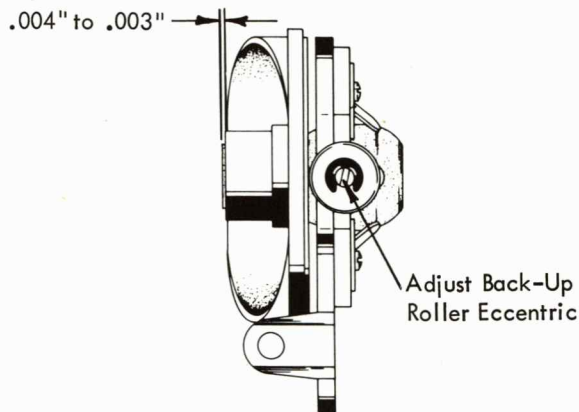

FIGURE 27. Shift Cam Back-Up Roller Adjustment
1. Shift Cam Back-Up Roller - Adjust the back-up roller eccentric left or right so that .001" to .003" of the cam bearing extends beyond the cam (Fig. 27). The eccentric should be kept in the bottom half of its orbit.